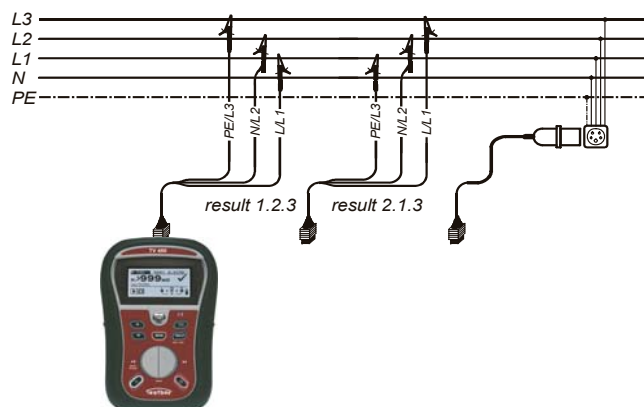

Figure 5.2: Connection of 3-wire test lead and optional adapter in three-phase system
- **Connect** test leads to the item to be tested (see *figures 5.2 and 5.3*).